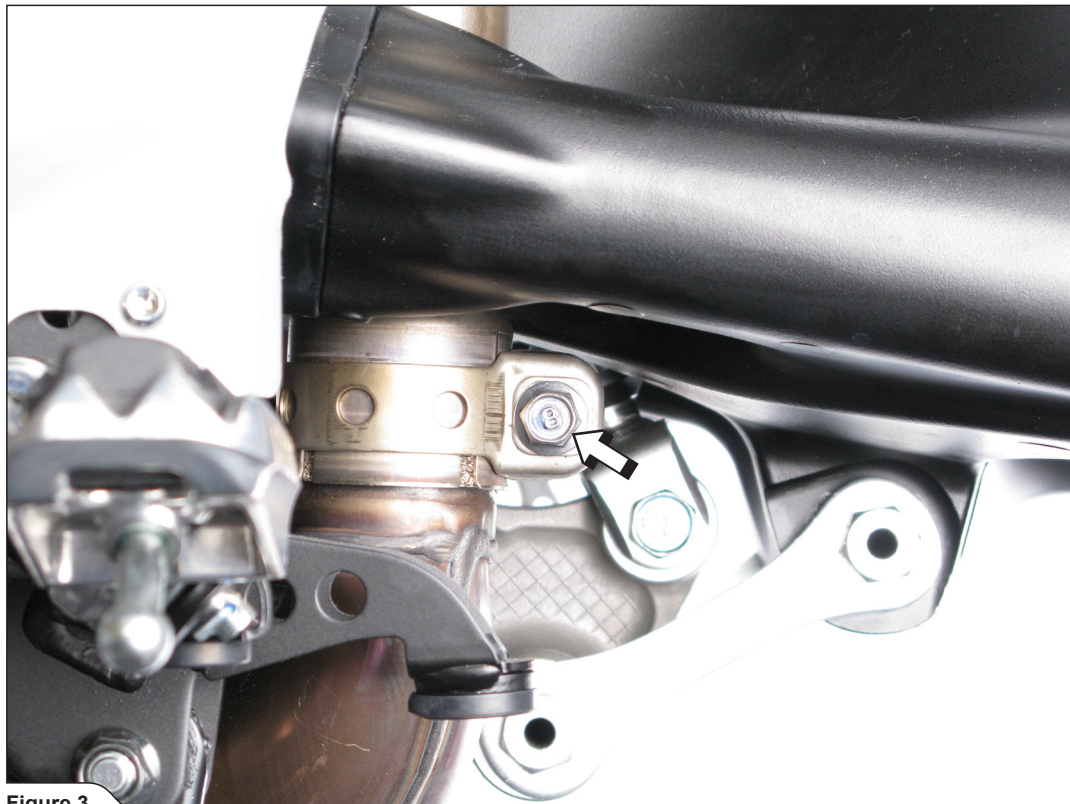

Figure 3
4. Untighten the link pipe clamp and remove the stock muffler off the motorcycle (**Figure 3**).